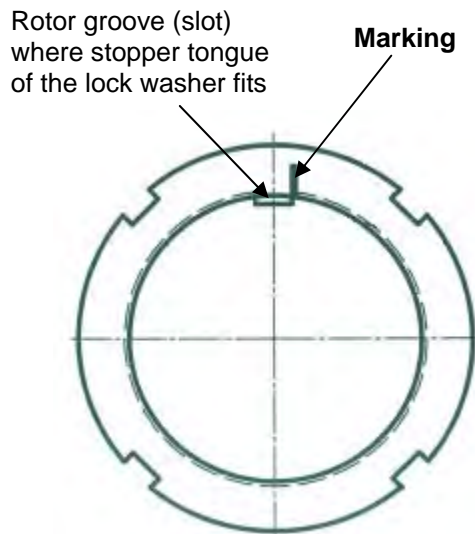

Figure 7-1 Position where Mark is Put
- Put a mark on the lock nut at the right side edge of the rotor groove where the stopper tongue of the lock washer fits in, as shown in Figure 7-1.